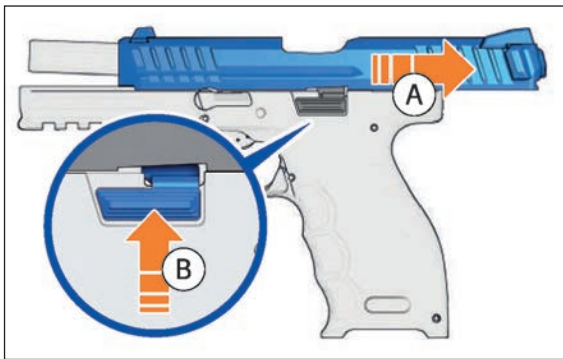

Figure 17 – Unloading
3. Rack and lock the slide to the rear by pressing upwards on either or both of the ambidextrous slide release levers and the slide is pulled back towards the rear (Figure 17).